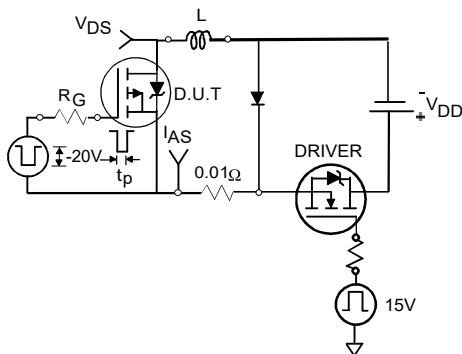

Figure 12a: Unclamped Inductive Test Circuit
- ① Repetitive rating; pulse width limited by max. junction temperature.
- ② Limited by T_{Jmax} , starting $T_J=25^\circ\text{C}$, $L=0.16\text{mH}$, $R_G=25\Omega$, $I_{AS}=-42\text{A}$, $V_{GS}=-10\text{V}$. Part not recommended for use above this value.
- ③ Pulse width $\leq 1\text{ms}$; duty cycle $\leq 2\%$.
- ④ C_{oss} eff. is a fixed capacitance that gives the same charging time as C_{oss} while V_{DS} is rising from 0 to 80% V_{DSS} .
- ⑤ Limited by T_{Jmax} , see Fig.12a, 12b, 15, 16 for typical repetitive avalanche performance.
- ⑥ This value determined from sample failure population. 100% tested to this value in production.
- ⑦ This is applied to D2Pak, when mounted on 1" square PCB (FR-4 or G-10 Material).
- ⑧ R_θ is measured at T_J approximately 90°C .
3. Equation below based on circuit and waveforms shown in Figures 12a, 12b.